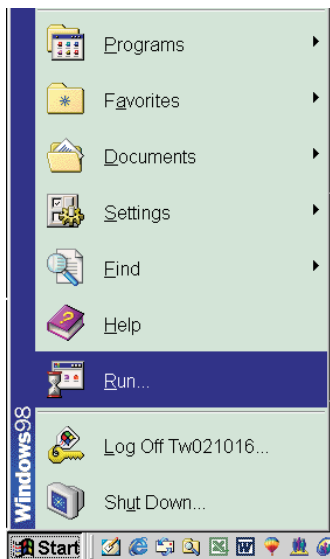

Fig. 5
2. Click **Start**, choose Run at start menu of Windows as shown In Fig. 5.